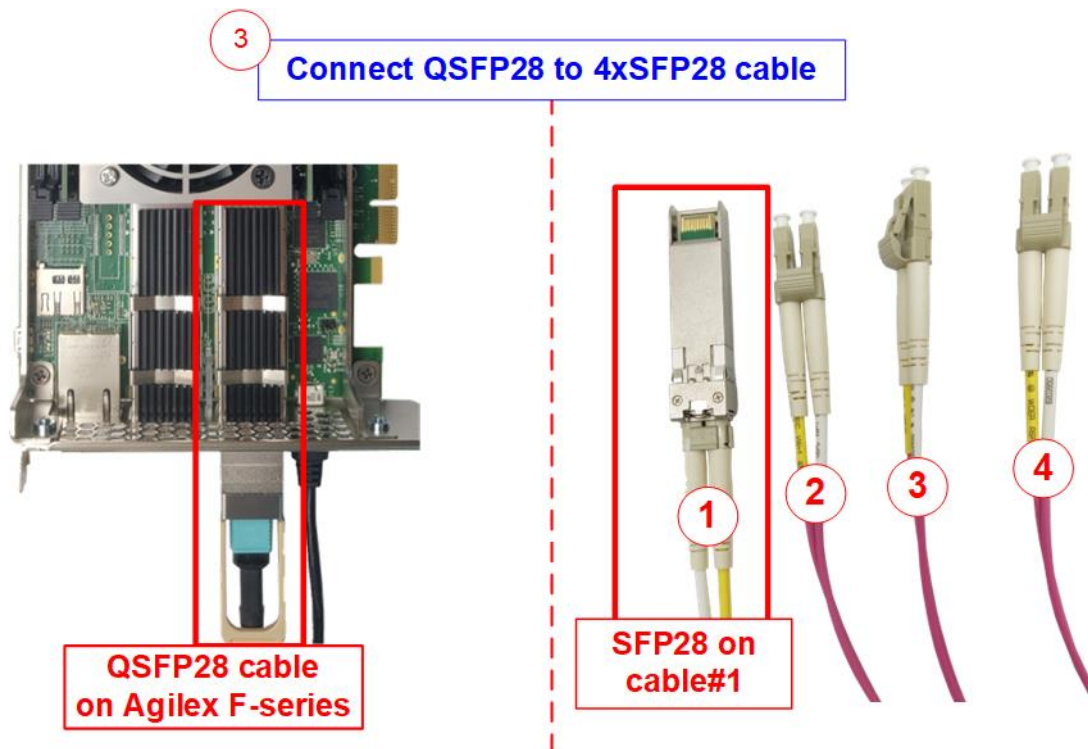

Figure 2-2 25Gb Ethernet connection
- 3) Connect 25Gb Ethernet cable between FPGA board and PC. Insert QSFP28 to 4xSFP28 cable between FPGA board and PC. Use SFP28 no.1 to connect to QSFP28, as shown in Figure 2-2. On Agilex F-Series board which have two QSFP connectors, use the right connector.